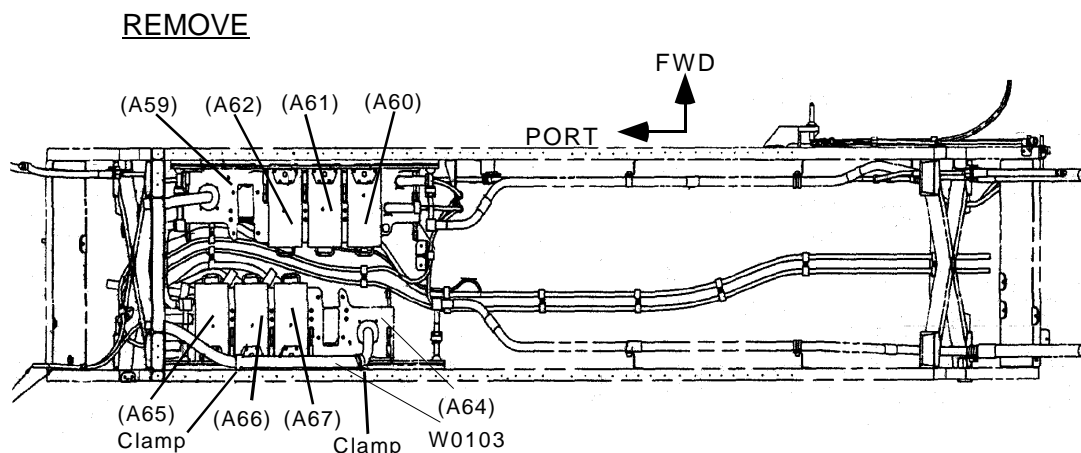

Figure 1.- Ovhd View of Node 1 Forward Ovhd Alcove (with Closeout and Shear Panel Removed).
5. Locate failed RPCM. See Figure 1 and Table 2.
Remove cable wire harness W0103 from clamps (two) (5/16" Socket, 1/4" Drive, 4" Ext, 1/4" Drive, Ratchet 1/4" Drive). See Figure 1.